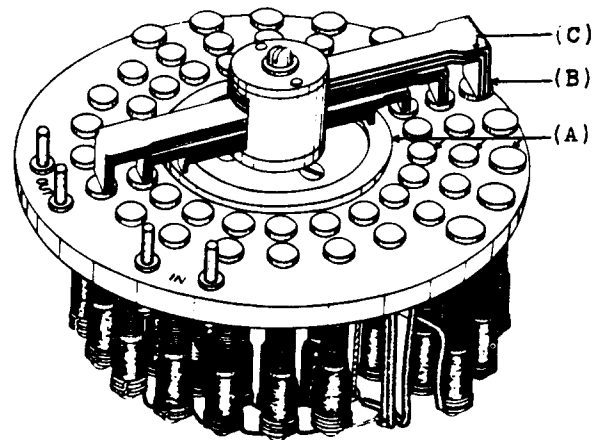

Fig. 1 - Stud Type Rotary Switch
- (a) Fig. 1 (A) - The contact surfaces shall be cleaned and lubricated, when necessary, in accordance with the section covering the cleaning and lubricating of stud type rotary switches.
- (b) Fig. 1 (B) - The contact springs shall be approximately centrally located on each contact stud when the detent roller rests in the corresponding depression in the detent plate and the pointer shall line up with the corresponding mark on the escutcheon plate. On apparatus equipped with dial plates the same requirement applies except that
- (a) Fig. 1 (C) - The pressure of each of the 3 contact spring leaves on the outer row of contact studs shall be